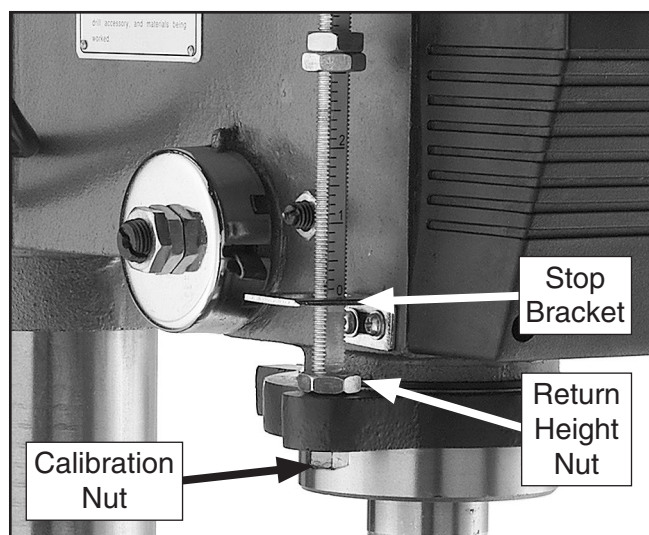

Figure 38. Depth stop assembly.
1. Loosen the return height nut and calibration nut shown in **Figure 38**.